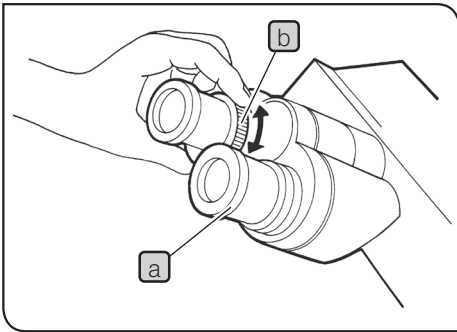

Fig.39
**6 Using eyepieces incorporating a micrometer (Fig.39)**
- 1** Looking into the right eyepiece with your right eye, turn the top of the eyepiece **a** so that the micrometer in the field of view looks sharpest. (Fig.39)